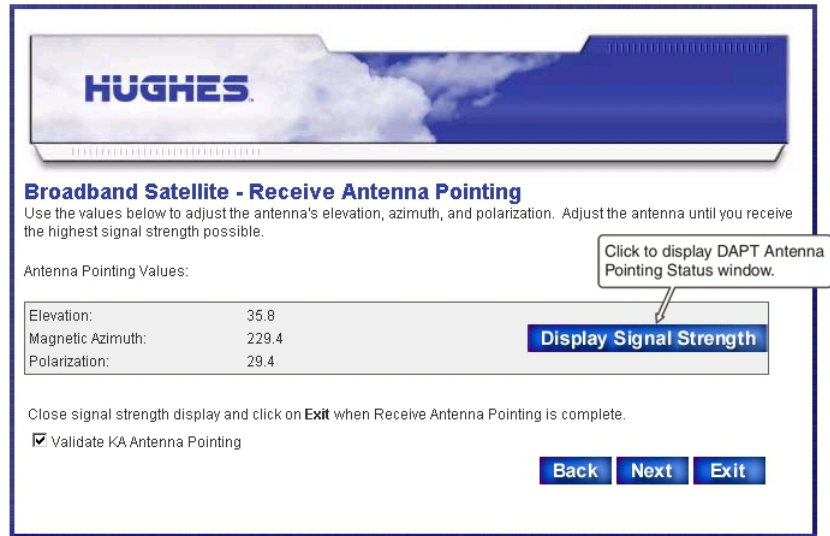

Figure 27: Receive Antenna Pointing screen
1. On the Receive Antenna Pointing screen, click **Display Signal Strength** (Figure 27) to open the DAPT Antenna Pointing Status window.